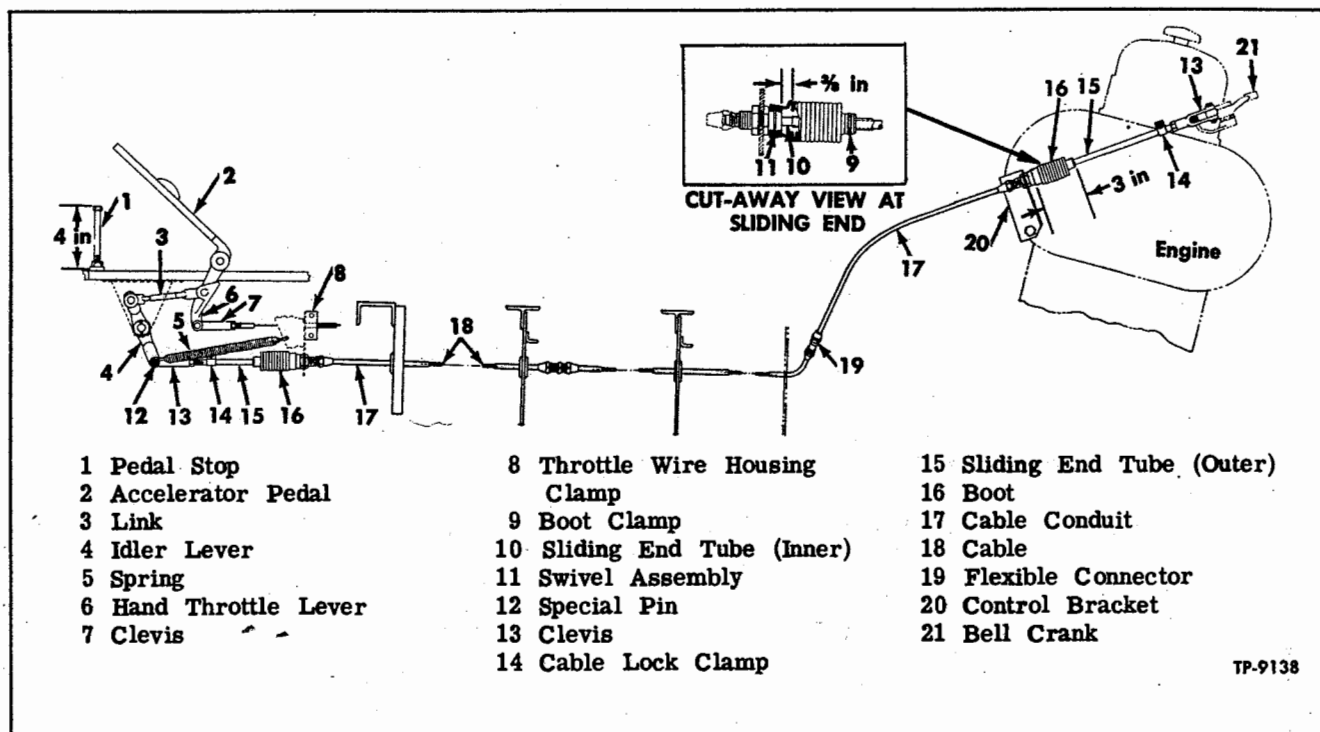
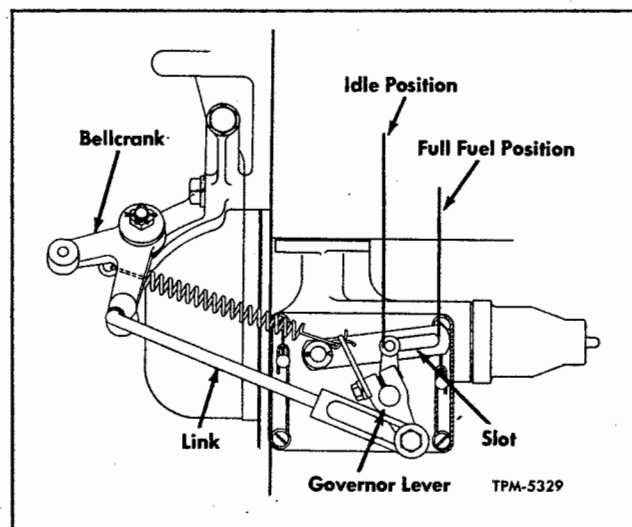

Figure 2—Accelerator Pedal and Linkage
Figure 3—Accelerator Controls at Engine
Key Numbers Refer to Figure 2.
lever at engine by rods, levers and flexible cable which is encased in metal tubing. Figure 2 shows construction of accelerator linkage.
Key Numbers in Text Refer to Figure 2.
Following steps must be performed in sequence as given to assure proper operation of linkage. Key numbers refer to figure 2 unless otherwise indicated.
2. In engine compartment, slide boot (16) onto tube (15) and install tube (15) over inner tube (10). Attach rear clevis (13) to bell crank (21) with clevis pin. Try operating the bell crank to move governor lever (fig. 3) from idle to full fuel position. Linkage at governor (fig. 3) should move freely.
3. Hold bell crank so that stop pin is at end of slot in cam (fig. 3) at the full fuel position and note gap between end of outer tube (15) and swivel (11). If necessary loosen lock nut at clevis (13) and turn outer tube to adjust gap to 3/8" as shown in cut-away view in figure 2. Tighten lock nut when gap is as specified.
4. Slide boot into position in groove at swivel, then move other end of boot to provide 3" overall length as shown in figure 2 and install boot clamp (9).
5. Assemble cable lock and clamp (14) to attach cable to sliding end tube (15).
6. Adjust accelerator pedal stop screw (1) to 4" height shown in figure 2. Assemble hand throttle lever (6), link (3) lever (4), and sliding end assembly and adjust outer tube to swivel gap at 3/8" with pedal (2) contacting stop screw. Tighten lock nut at clevis (13) to lock adjustment and adjust boot length to 3 inches and clamp the boot in place.
7. While assistant holds bell crank (21) in engine compartment at full fuel position (pin at end
of slot, fig. 3), assemble cable lock and clamp (14) at front end of linkage.
8. Install spring (5), then connect hand throttle clevis (7) to lever (6).
9. Check operation of accelerator and hand throttle. Observe position of pin in cam lever slot at engine governor referring to figure 3. Slight readjustment at pedal stop screw and at hand throttle clamp may be necessary to allow full travel of pin to either end of slot.